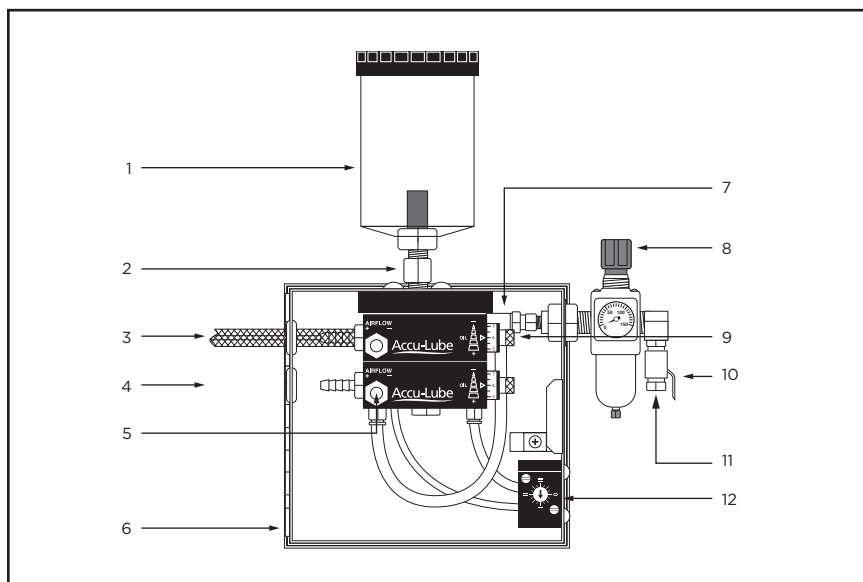

Fig. 1 - Two Nozzle Aluminum Pump Applicator with Manual Control
2. **Reservoir Extension:** Connects the liquid reservoir (**Fig. 1 #1**) to the applicator.
4. **Lubricant Line:** Capillary tube that runs inside the braided air hose. [*Hose Assembly: braided air hose (Fig. 1 #3) & lubricant line (Fig. 1 #4).*]
1. Remove the plastic shipping plug from the reservoir extension (**Fig. 1 #2**) on the top of the applicator and clean any debris from the threads and opening.
2. Wrap the threads on the bottom of the reservoir (**Fig. 1 #1**) with Teflon tape (not included) and attach to the reservoir extension with  $3/4$ " wrench.
3. Fill the reservoir (**Fig.1 #1**) with lubricant. Refer to warranty information on page 14.
5. Make sure the applicator is off, then the attach air supply to the air inlet (**Fig. 1 #11**). **NOTE:** If excessive oil, mist, or dirt is present in the air supply an optional coalescing filter is highly recommended (see pages 12 - 13 for parts information).
3. Adjust the airflow valve (**Fig. 1 #5**) on each pump, turn counterclockwise to increase air flow and clockwise to decrease the flow. The airflow should be just high enough to move the lubricant to the cutting edge.
4. Set the frequency generator (**Fig. 1 #12**), see instructions on page 10.
5. Set the lubricant control (**Fig. 1 #7**), see instructions on pages 8 - 9.